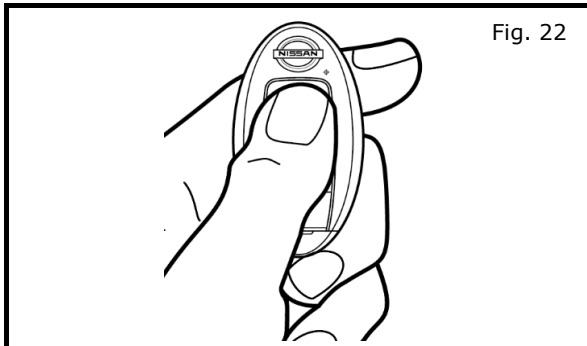

Fig. 22
- a) Press and hold the RES button within five (5) seconds of pressing the LOCK button until the turn signal lights turn ON, then release to confirm vehicle starts as shown in Fig. 22.